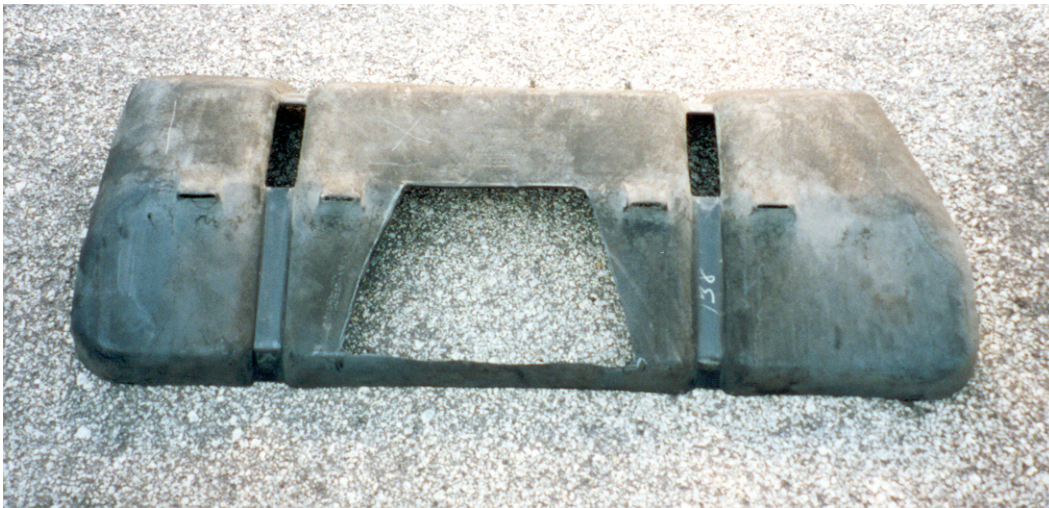

Figure 1-1
- 1-5. Measure the position of the sump on the supplied Aeromotive fuel tank and mark the plastic fuel tank shield accordingly. Using an $\frac{1}{2}$ " drill bit, drill the four corners of the sump cutout in the plastic fuel tank shield. Using a small hand saw or reciprocating saw, cut out the remaining area from the plastic fuel tank shield. Once you have completed this step your plastic fuel tank shield should look similar to Figure 1-1.